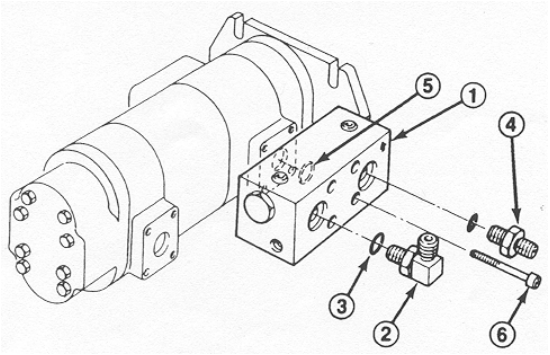

Figure 5
- The flow combining valve (Fig. 5) has an arrow marked on its upper right side. With the arrow pointing up, install the 90 degree fitting and the O-ring into the rear port on the valve. Also, install the straight fitting and the O-ring into the front port on the valve.